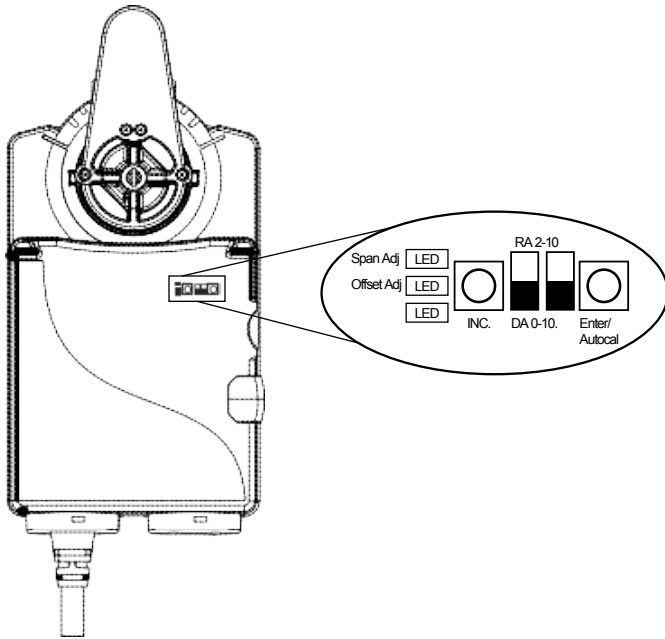

Figure 14: DIP Switches and LEDs Placement
To complete the auto calibration process, press Enter/Autocal until all three LEDs are on. See Figure 14 for viewing the DIP switches and LEDs.
1. Set DIP switch one and two before proceeding. See Figure 14 for DIP switch placement.